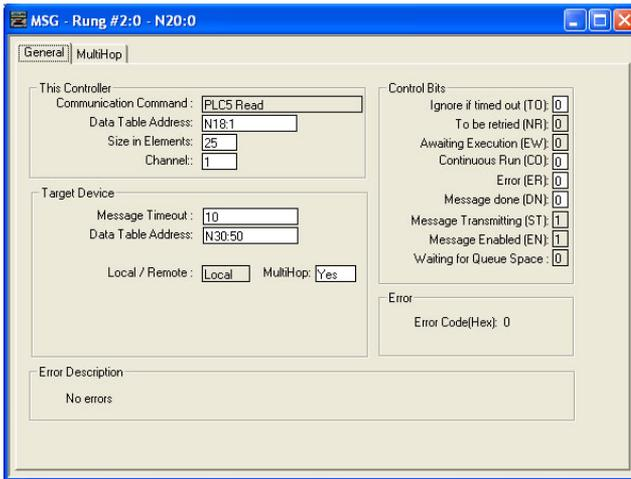

Figure 116: MSG Configuration, "General" Tab
- b) Upon hitting the <ENTER> key while in the “Control Block” entry box, the MSG Properties dialog box should appear (or it can be opened by clicking on the “Setup Screen” button at the bottom of the MSG instruction). Refer to Figure 116.